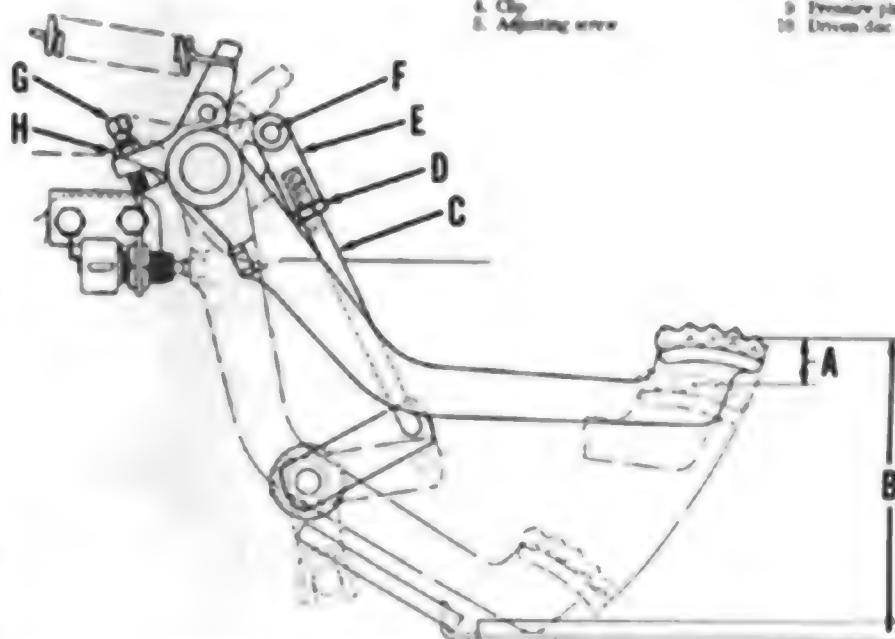

Fig. 59 - View showing the adjusting points of the engine clutch linkage on Models 684, 784 and 884. Refer to text.
71. To adjust the engine clutch linkage, refer to Fig. 59 and adjust pedal free height (B) as follows: Loosen jam nut (H) and adjust screw (G) until pedal free height measures 6 inches. Tighten jam nut (H).